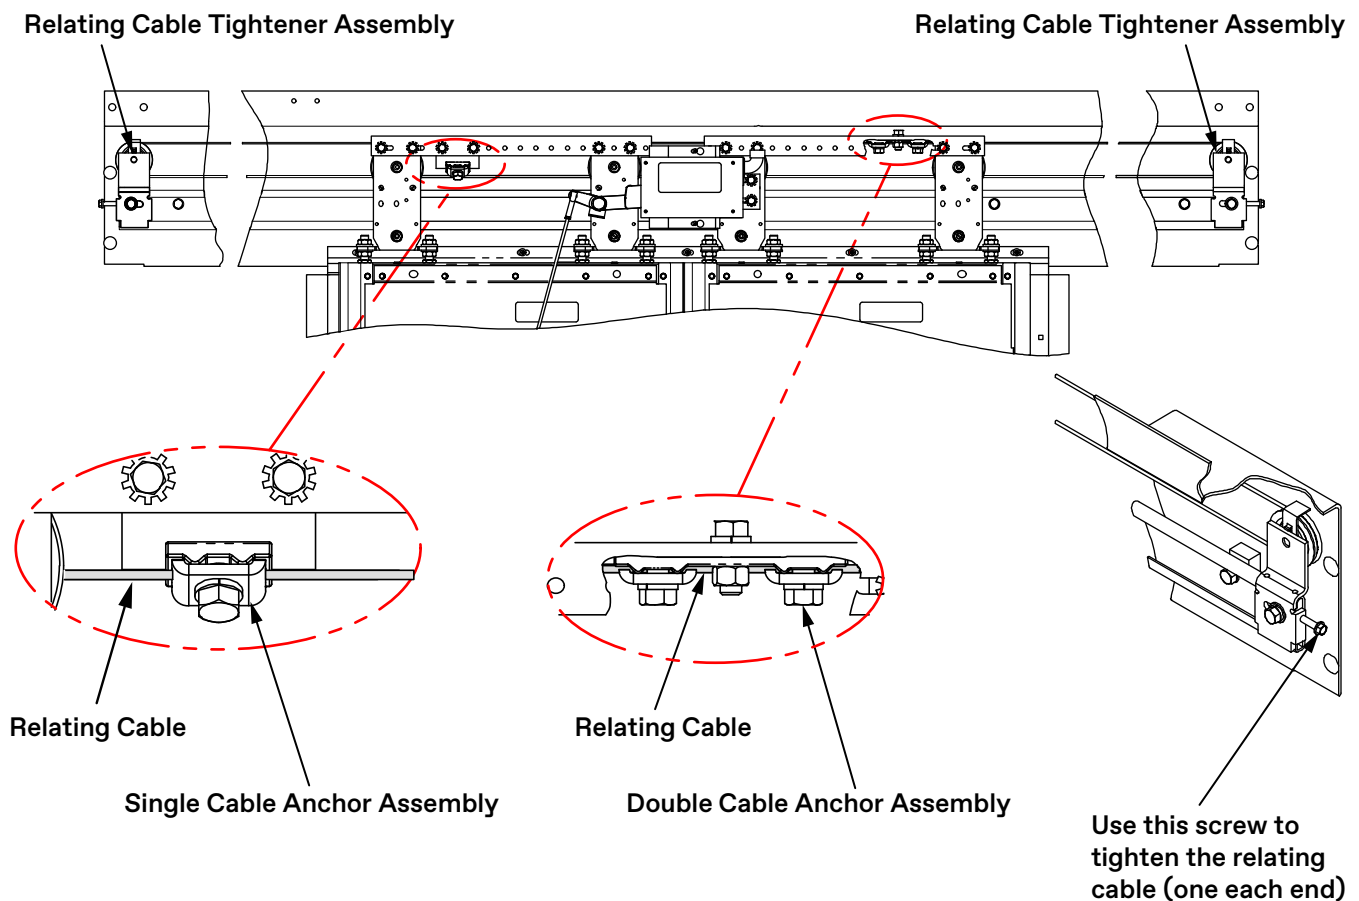

Figure 49 - Install the Relating Cable
1. Install one relating cable pulley assembly in the strut on each end of the hoistway header. See Figure 49.